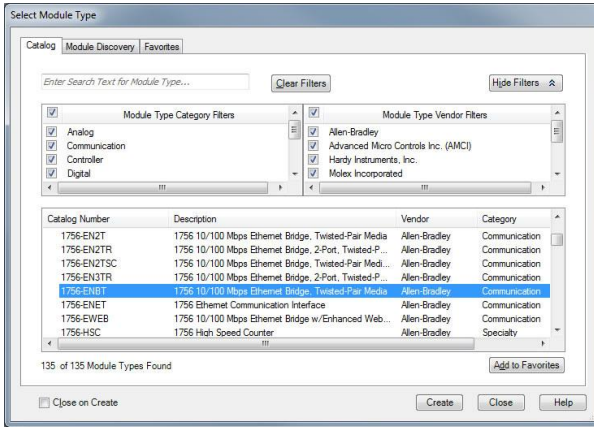

Figure 24: Adding a New Module
- 5) Select the “1756-ENBT/A”, and click “Create”. Refer to Figure 24.